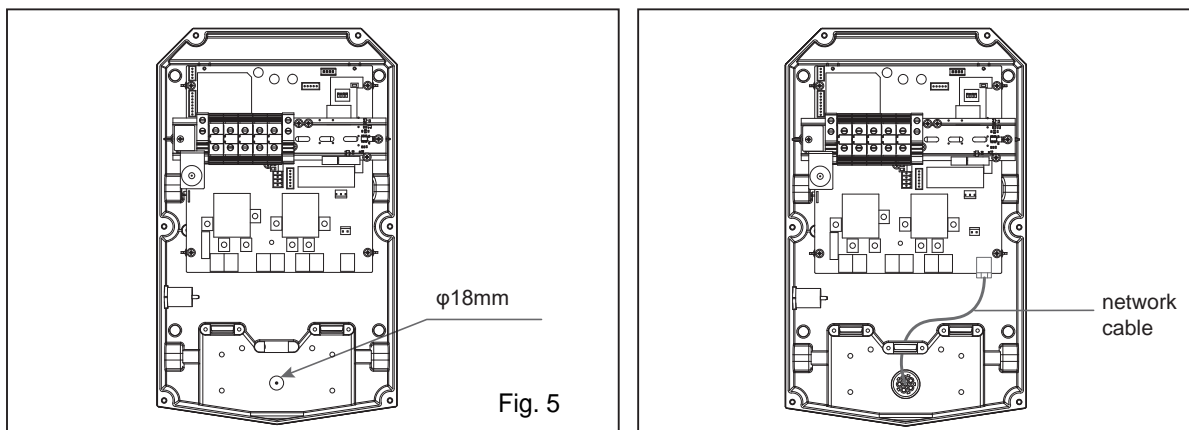

Fig. 5
1. Drill holes according to Fig. 5.